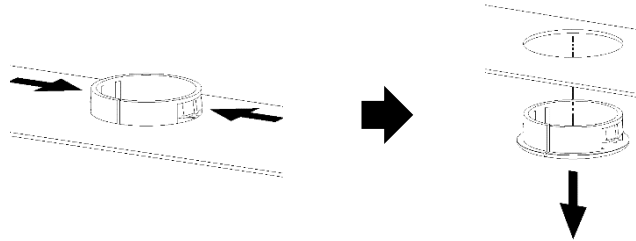

Fig.2-4 Remove the bushing
2. Open the back door of the cabinet, remove the plastic cover. The input and output terminal, battery terminal and protective earth terminal are shown in Fig.2-4
Fig.2-4 connections terminals